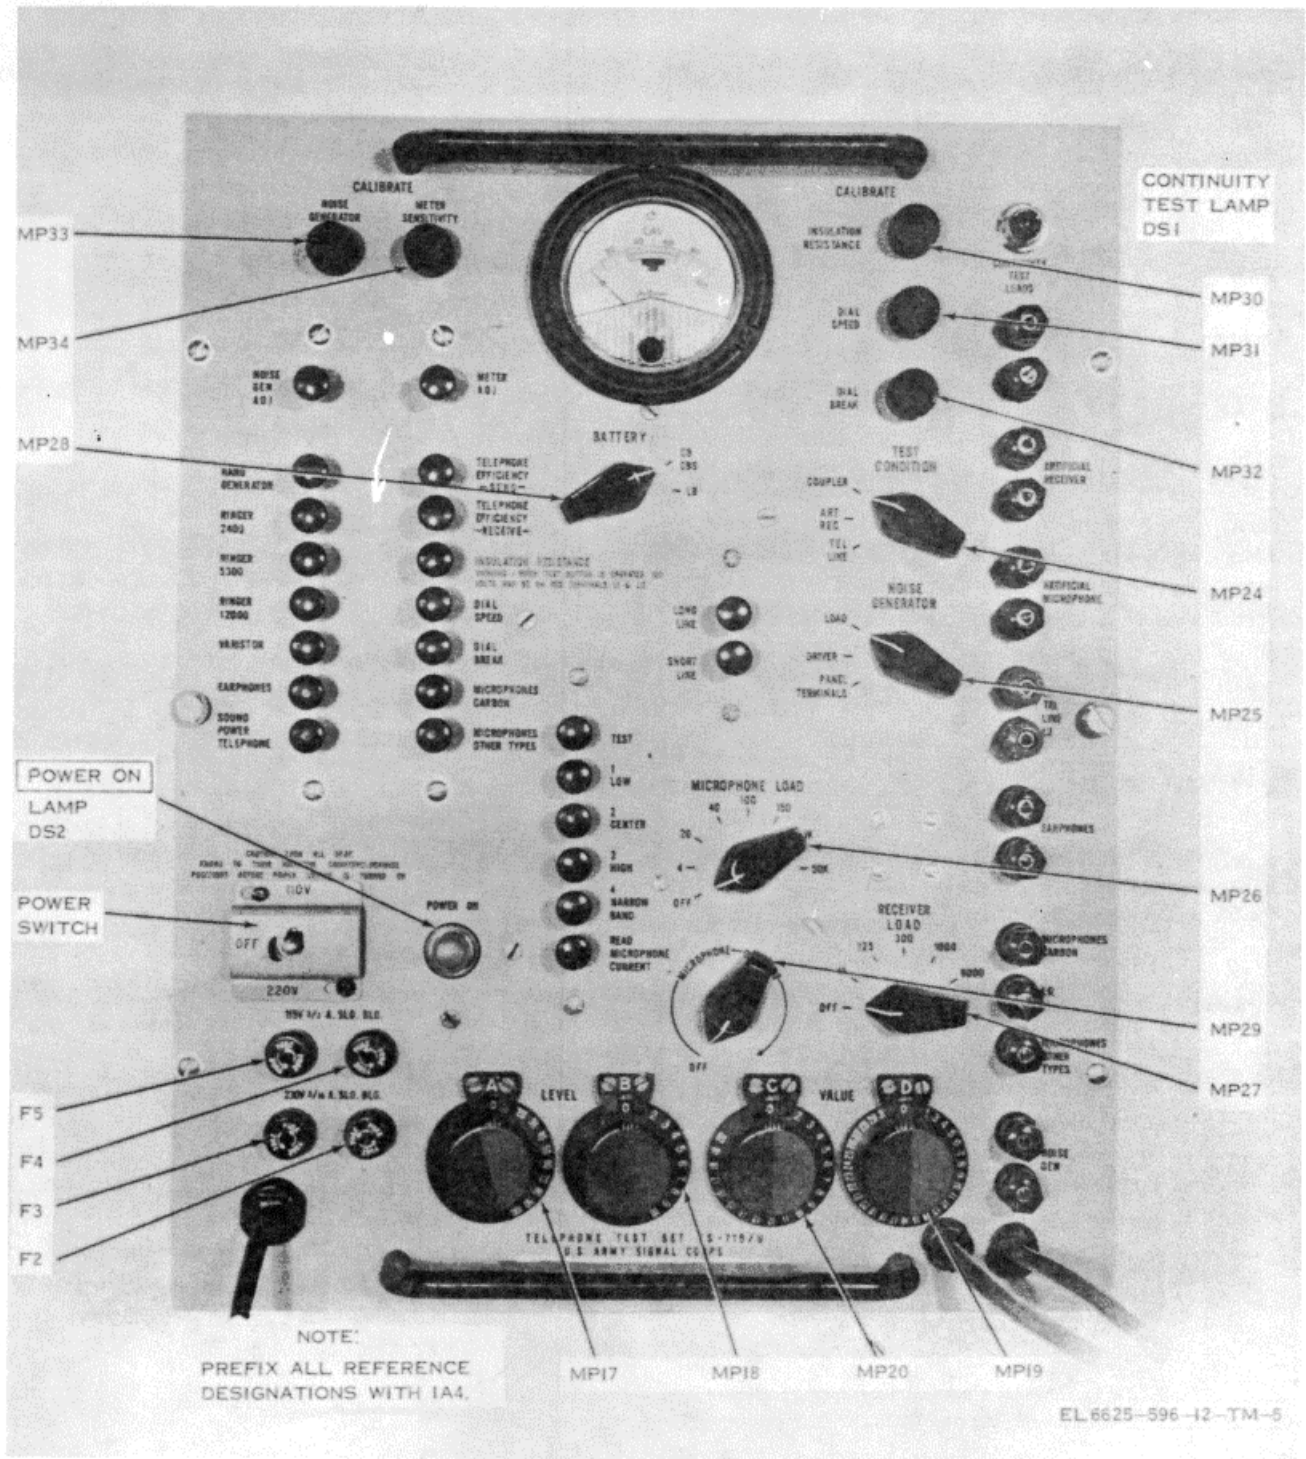

Figure 1-5. Panel chassis assembly 1A4, front view
d. *Panel Chassis Assembly 1A4.* (fig. 1-5). Assembly 1A4 contains the controls and indicators required for operation of the TS-716/U. The front panel also contains four fuses, 15 test terminals, and the power cable.